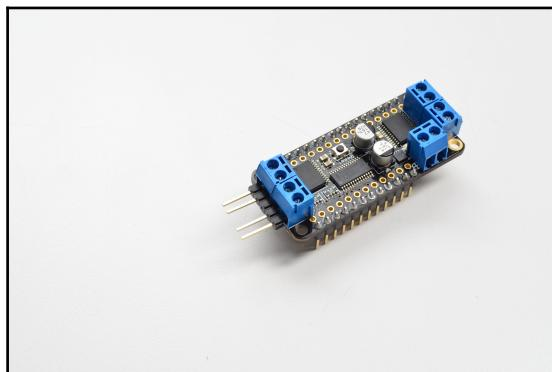

Figure 5.6: Inserting the male headers into M3 and M4. Image courtesy of Adafruit Industries (<https://www.adafruit.com/>)
5. Insert the prepared extra-long male header into M3 and M4. Then tighten the screws in terminal blocks. This will make it easier to connect and disconnect the DC motors from the DC Motor + Stepper FeatherWing Add-on board (*Figure 5.6*):